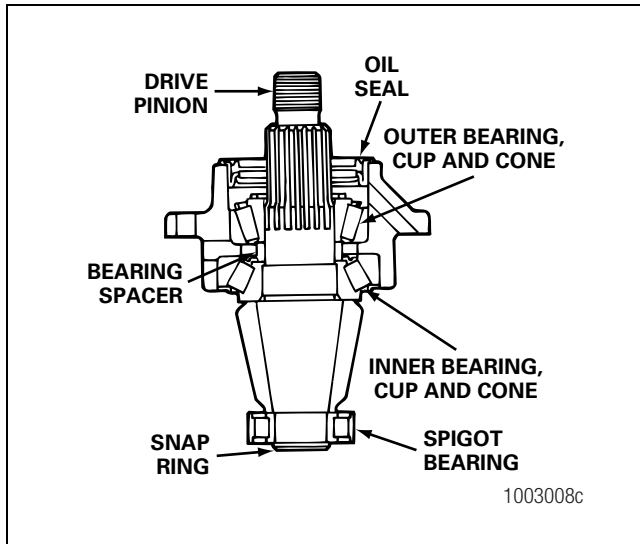
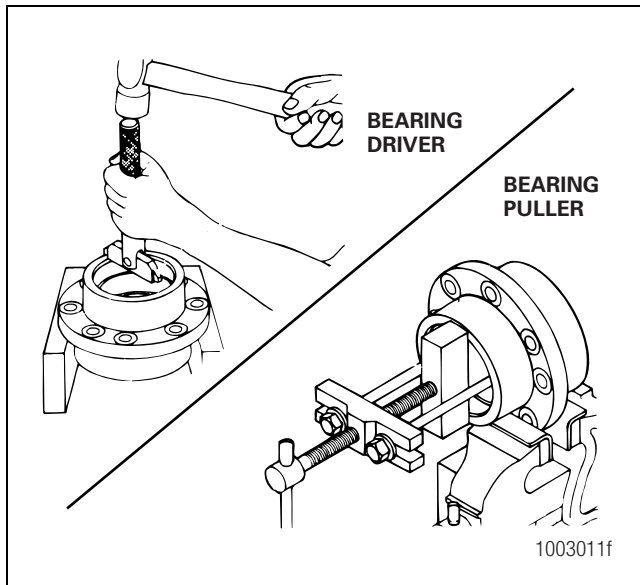

Figure 3.28
Figure 3.29
5. If the pinion bearings need to be replaced, remove the inner and outer bearing cups from the inside of the cage. Figure 3.28. Use a press and sleeve, bearing puller or a mall drift hammer. The type of tool used depends on the design of the bearing cage. Figure 3.29.